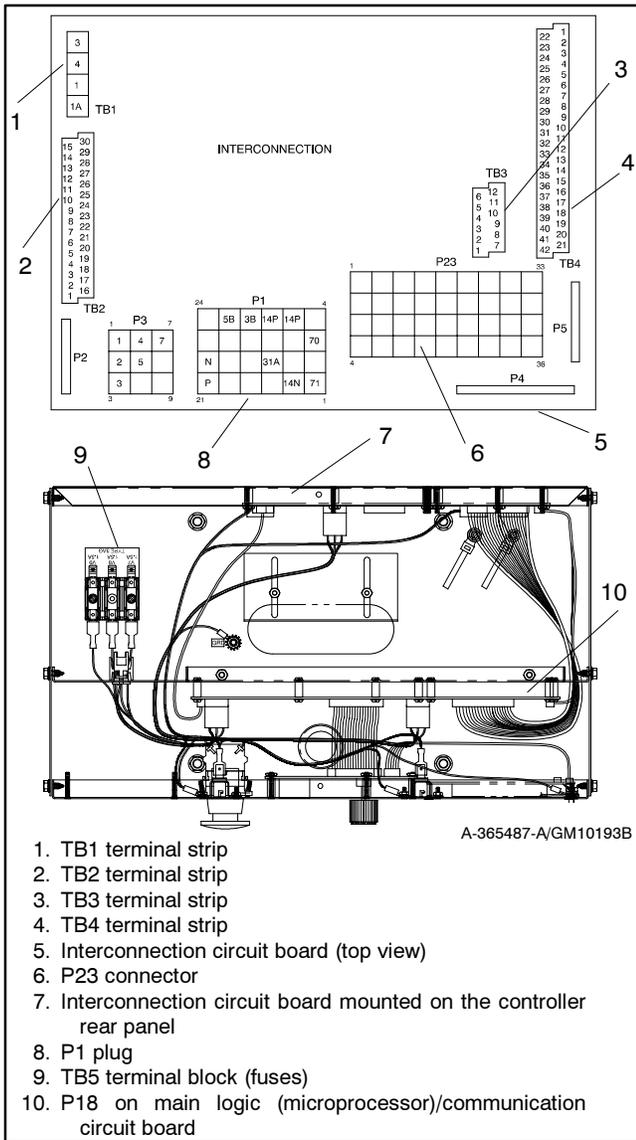

Figure 4 Disconnecting Controller Circuit Board External Wiring Connections
- 4.2 If access to the interconnection circuit board on the rear panel and/or the main logic/communication circuit board on the front panel is difficult, partially disassemble the controller box. Remove the two controller panel top screws and center bottom screw and then loosen the bottom screw on each side to swing the controller panel down. See Figure 4.